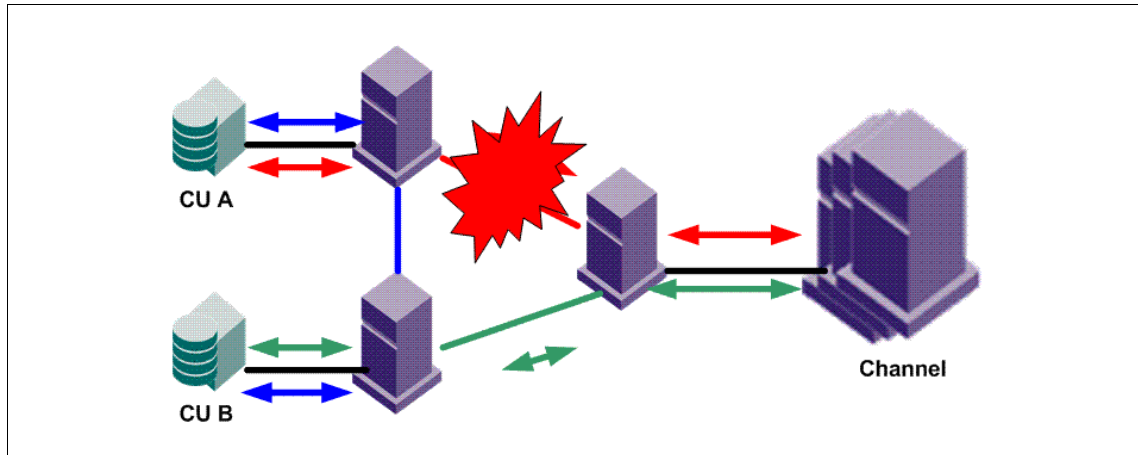

Figure 2-4 Link failure on TI Zone with failover disabled
The best way to illustrate this new change is by example and we will use Figure 2-4. In it we have a Channel Device that is a member of both the green and red zones with failover disabled. We also have two Control Units (CU), A and B, that are members of the two zones.